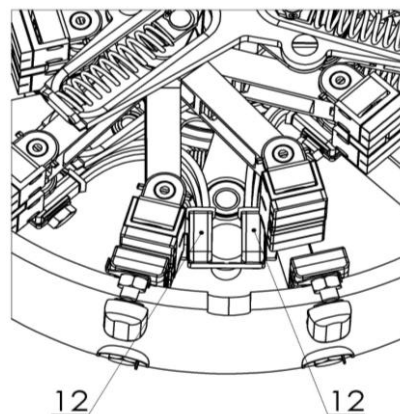

Fig. 8
- Check the wholeness of the flexible connections (Pos. 12, Fig. 8) between the moving contacts situated at the bottom of the diverter switch.